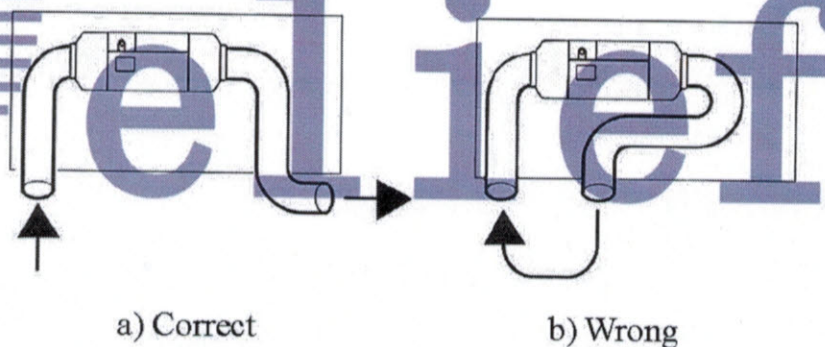

Fig. 11
4.3.6 For heater working in internal circulation, measures shall be taken to avoid re-entering of the supplied hot air into the air inlet port (as shown in Fig. 11). If no air inlet tube is attached in this mode, an air inlet hood with grids (Fig. 4-6) must be installed at the air inlet port of the main heater. The inlet air shall be drawn from the cold area of the compartment, such as under the seats or berths.